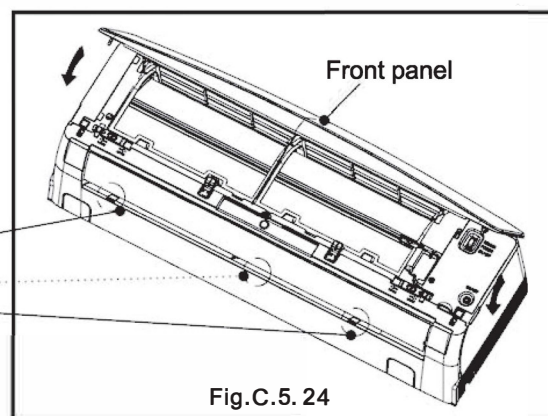

Fig.C.5.24
- 12) Close the front panel as shown in Fig. C.5.24